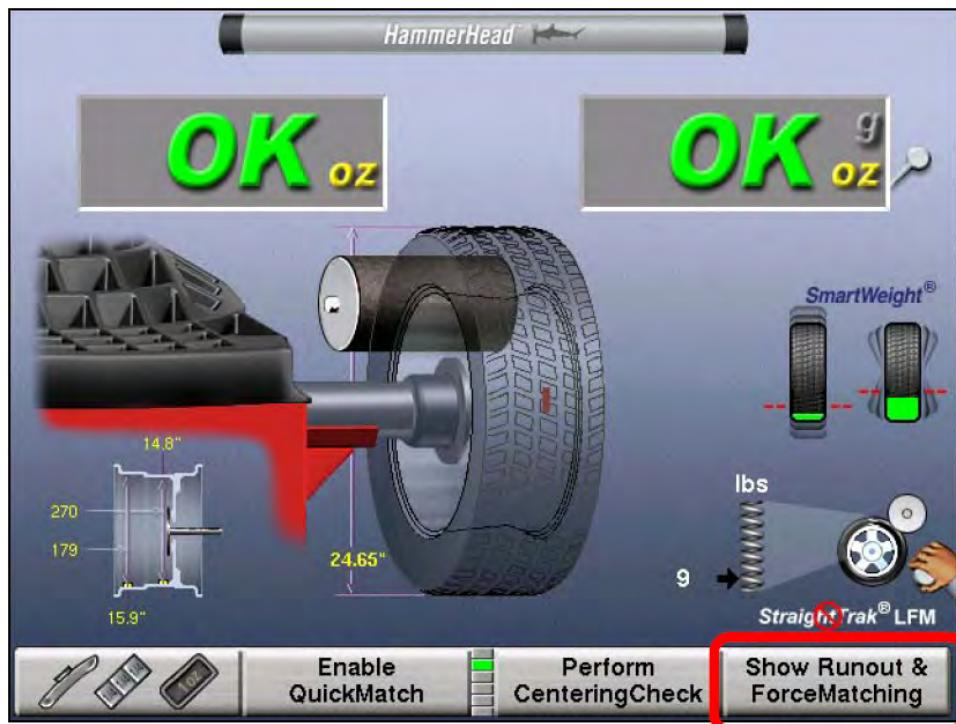

Figure 1
- Using the menu shift key, navigate to and select "Show Runout & ForceMatching" (see Figure 1).